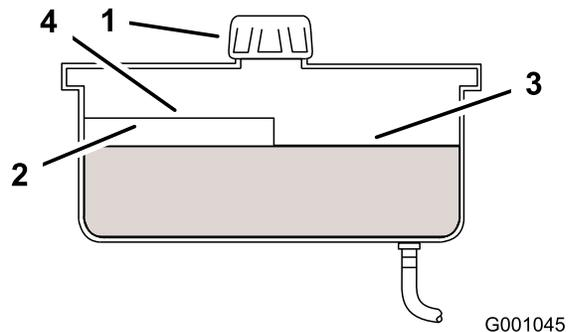

Figure 59
- Remove cap from filler neck. Look inside to check the fluid level in the reservoir. (Figure 59).
Note: The fluid level should be to the top of the hot level of the baffle, when the fluid is warm (Figure 59).